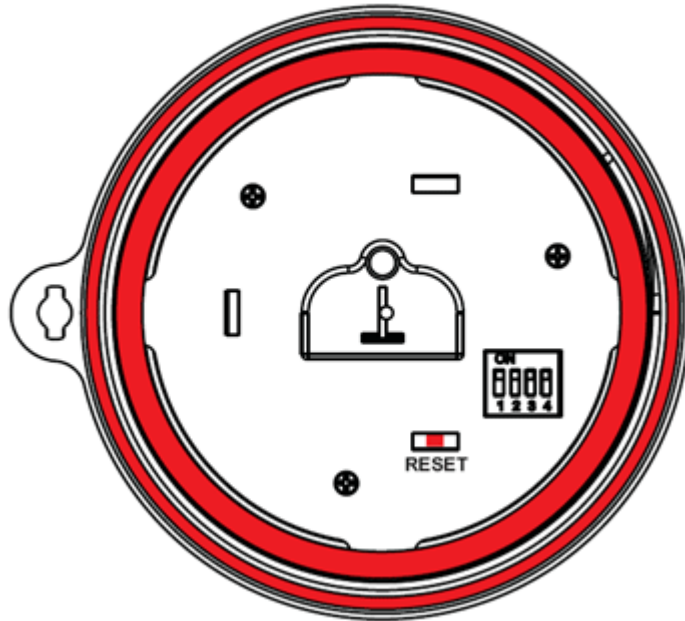

Figure 6
- (1) Open the battery compartment and (2) insert 4 x AAA batteries into the battery compartment, observing the correct battery polarity.
5. Close the battery door. Make sure both red colored gaskets are properly seated in their traces prior to closing the battery door, as shown in Figure 6. Failure to properly seal the floating thermometer will result in water leakage and damage.